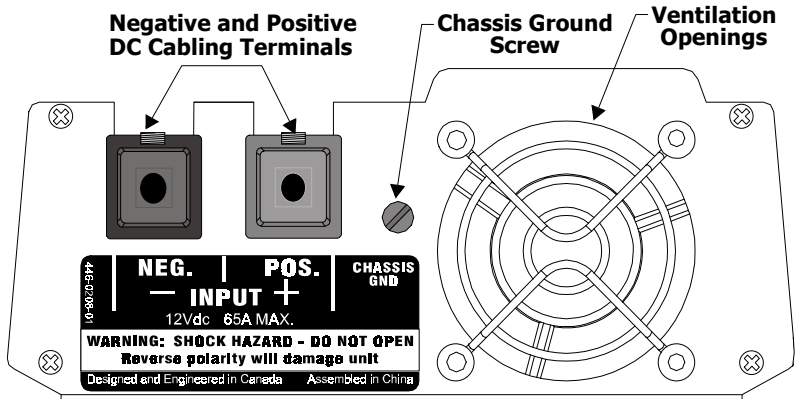

Figure 2 Back Panel (DC End)
5. Insert the stripped ends of the cables into the cabling terminals on the rear of the inverter and tighten the screws securely. The red terminal is positive (+); the black terminal is negative (-). See Figure 2.